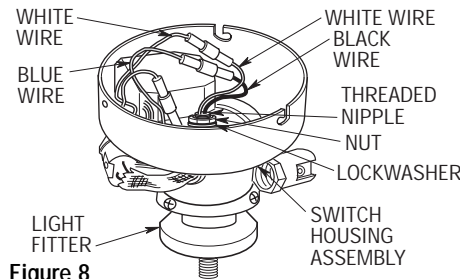

Figure 8
- 11. Pass the two wire leads from the light fitter through the center hole in the switch housing assembly (Figure 8). Screw the light fitter threaded nipple tightly into the center hole. Install the lockwasher and nut (supplied) onto the threaded nipple inside the switch housing assembly and securely tighten.
- 12. Connect the white wire from the light fitter to the white wire from the switch housing (Figure 8). Connect the **black** wire from the light fitter to the **blue** wire from the switch housing. Make sure both connectors are securely engaged.